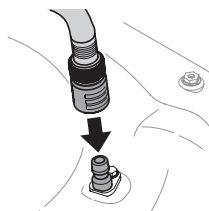

Figure 40
3. Attach garden hose with the deck wash nozzle to the water port on your deck's surface (Figure 40).